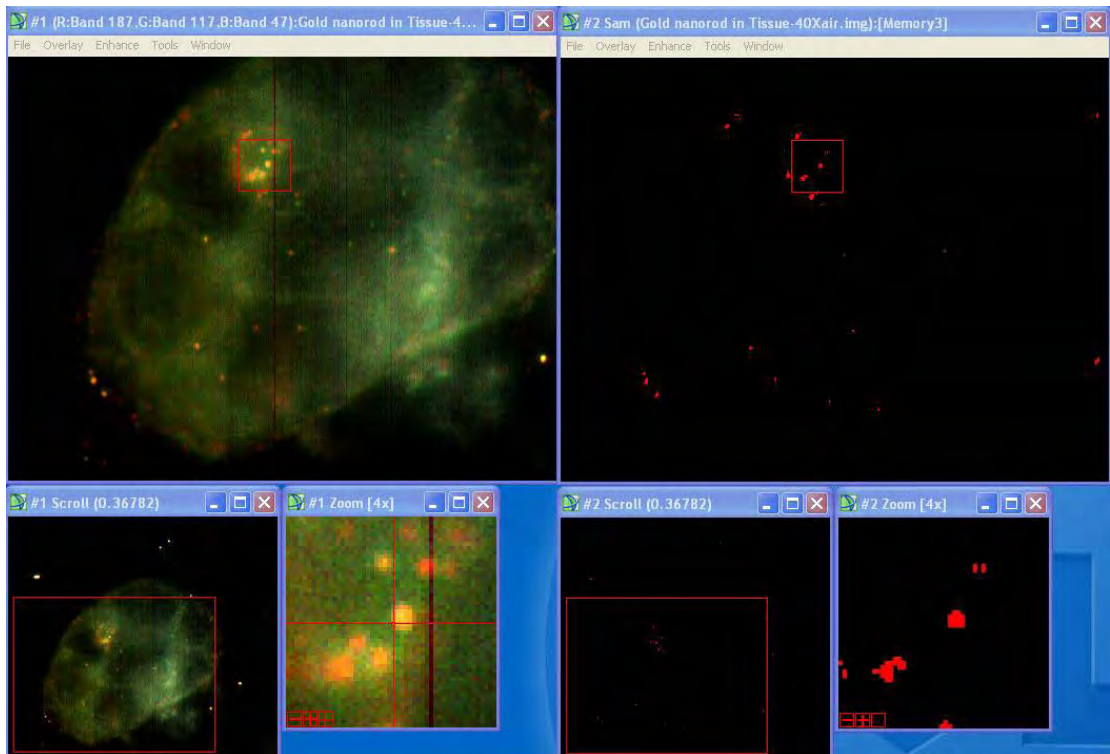

Figure 23. Linking the two displays
4. If you left click and hold in any window it will display whats in the opposite window. (see Figure 23)